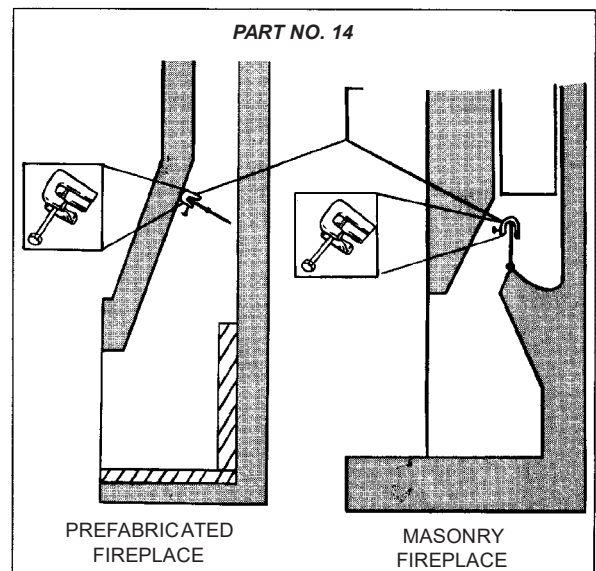

Figure 2. Damper stop clamp
- Open fireplace damper fully and install Damper Stop Clamp with 1/4x2" set screw (Part 14#). This clamp is Designed to allow any combustion by-products to vent (See **Fig.2**) Should the Damper Stop Clamp supplied not fit, a permanent damper stop clamp must be installed that will keep the damper open at a distance of not less than 1 1/2".